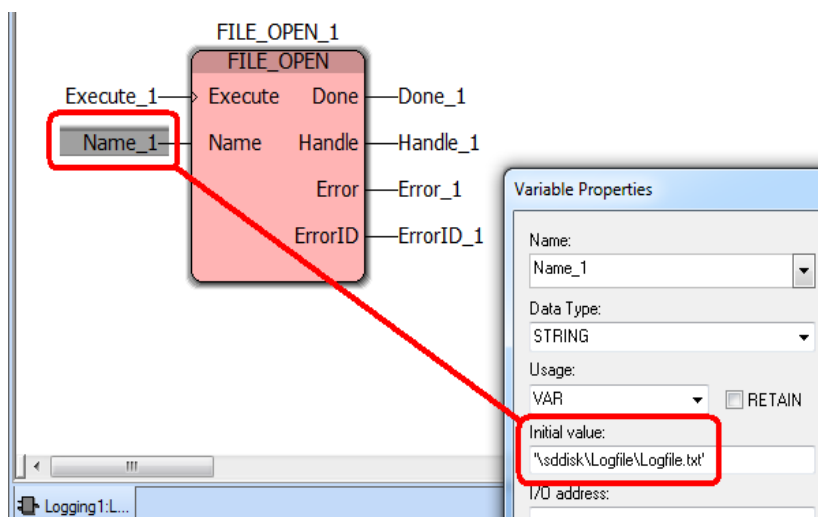

Figure 3-23 Opening the “Logfile.txt” file via the FILE_OPEN function block
Figure 3-23 shows a FILE_OPEN function block for opening the “Logfile.txt” file in the “\sddisk\Logfile” directory.
- In the “Variable Properties” dialog, (seen on the right in Figure 3-23) always enter the full path and file name.